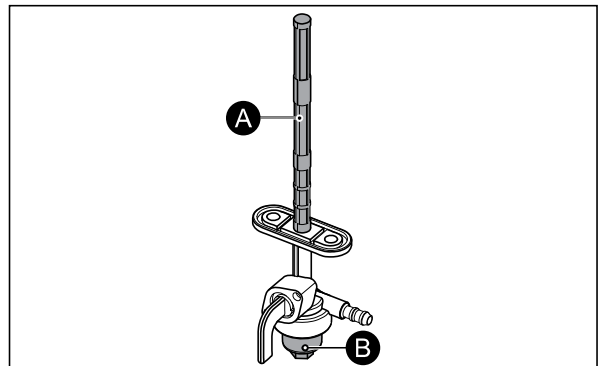

Fig. 4.6
- A pencil filter (A) is fixed to the fuel cock assembly and inserted inside the fuel tank. The fuel cock also has a filter inside the fuel cock sediment bowl (B). (Fig. 4.6)